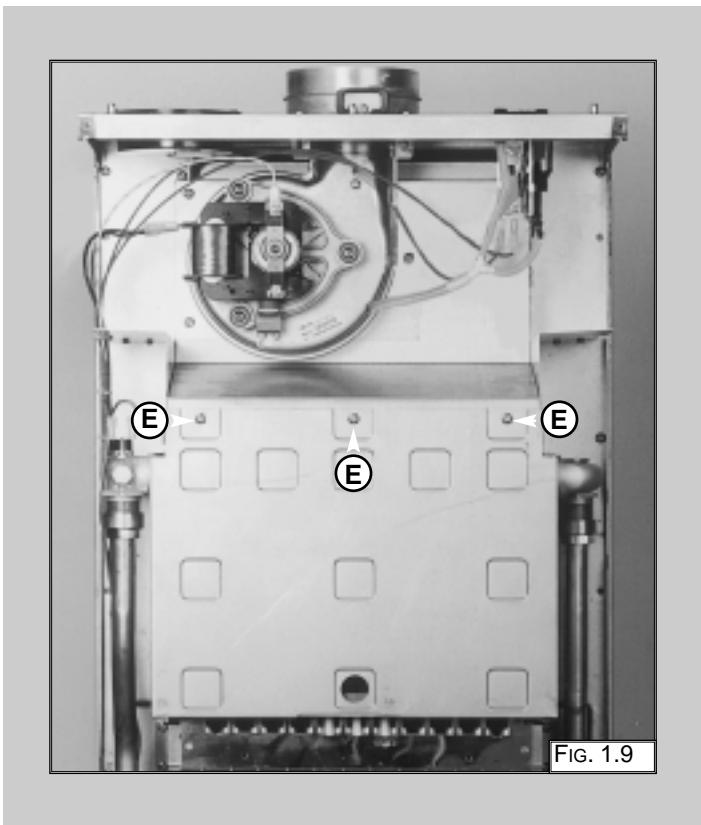

FIG. 1.9
1. Remove the screws "E" (FIG. 1.9);